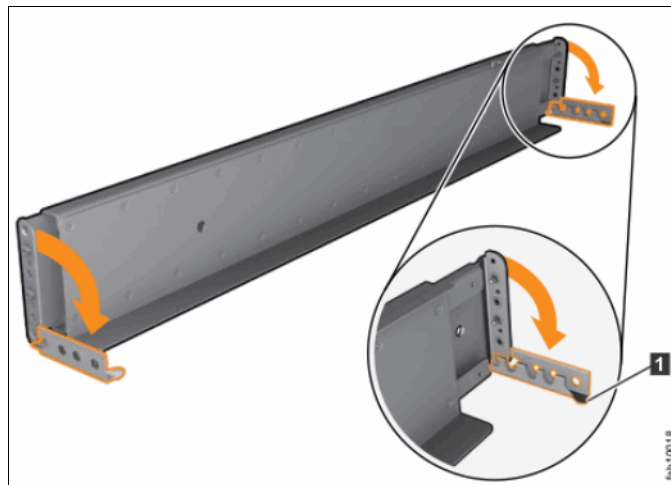

Figure 6-32 Opening the rail hinge brackets
5. At each end of the rail, grasp the tab **1** and pull firmly to open the hinge bracket. See Figure 6-32.